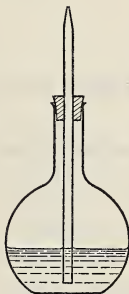

FIG. 99. Blowing into the flask compresses the air.
7. Blow through the jet tube of Fig. 99 as hard as you can. Explain the results.